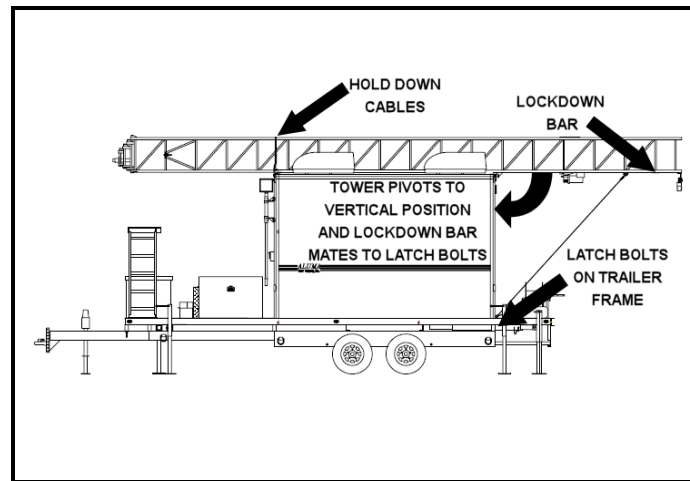

Fig. 6 Trailer Tower Component Locations
1. While the tower is still in the horizontal position, loosen and remove the hold down restraining cables and latches that hold the tower in place for transporting. These cables are located on the top front of the shelter (*see Fig. 6*).
2. Using the manual brake winch on the rear support, crank the tower from the horizontal to the vertical position. At the halfway position undo the nuts from the latch bolts at the bottom rear of the trailer frame (*see Fig. 6*).
3. Secure the tower in the vertical position with the tower lockdown bar pivoting over the latch bolts on bottom of rear trailer frame (*see Fig. 6*). Tighten the nuts with wrenches supplied in tool kit TM-TK, which is stored in the #664 or #684 storage box.